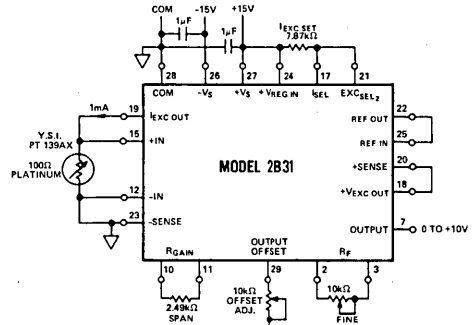

Figure 7. Platinum RTD Temperature Measurement
**Platinum RTD Temperature Measurement:** In Figure 7 model 2B31 provides complete convenient signal conditioning in a wide range (-100°C to +600°C) RTD temperature measurement system. YSI - Sostman four-wire, 100Ω platinum RTD (PT139AX) is used. The four wire sensor configuration, combined with a constant current excitation and a high input impedance offered by the 2B31, eliminates measurement errors resulting from voltage drops in the lead wires. Offsetting may be provided via the 2B31's offset terminal. The gain is set by the gain resistor for a +10V output at +600°C.